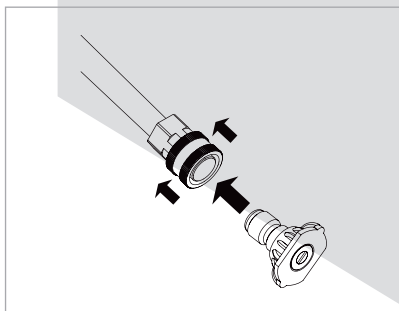

Fig 12
3. Pull back on the spray wand quick connect collar and insert the desired spray tip and release the collar. Tug on the spray tip to ensure it is firmly secure. Fig 12